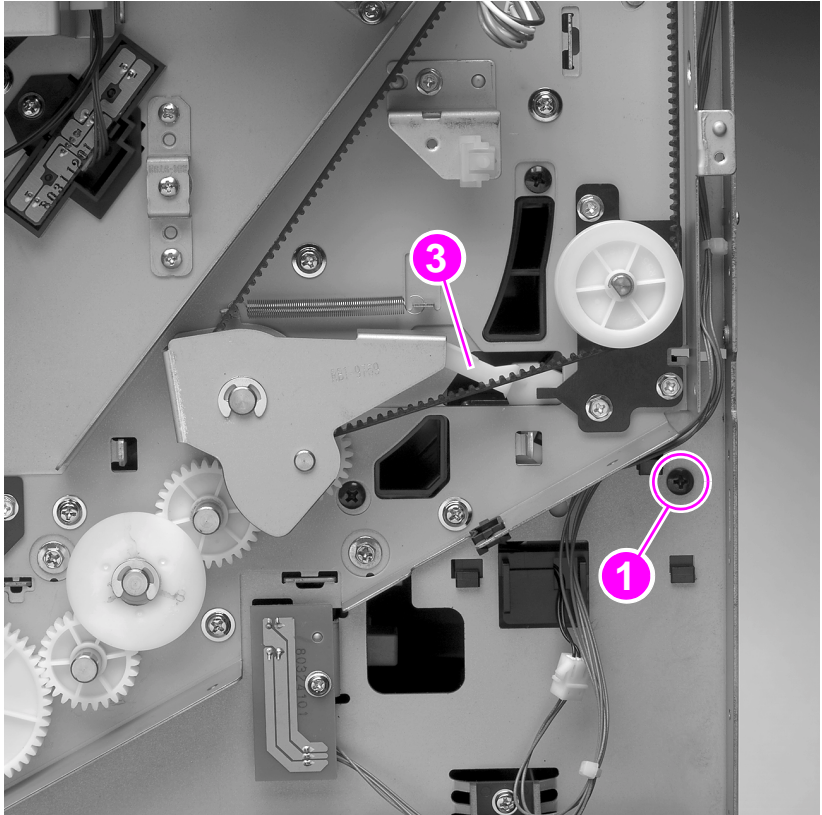

Figure 109. Face-up solenoid (1 of 2)
- Ensure that the plastic arm from the solenoid is engaged under the delivery drive swing arm (callout 3, figure 109).